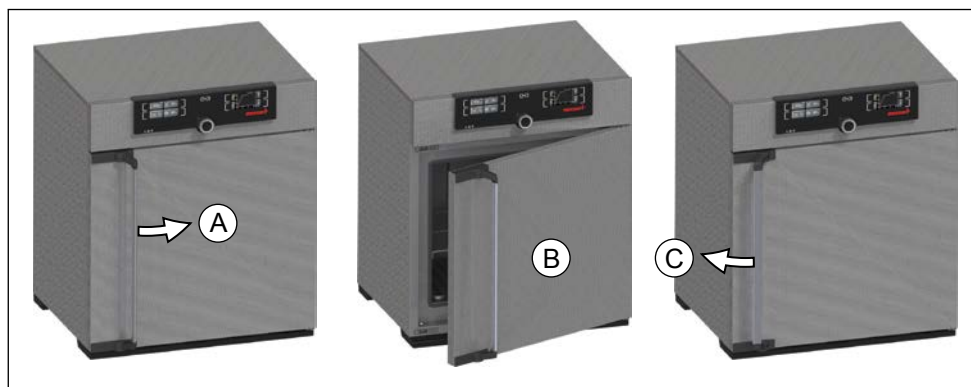

Fig. 13 Opening and closing the door
- ▶ To open the door, pull the handle bar to the side (to the left or to the right, depending on the door variation, see Fig. 13, A). The door opens slightly, so that the heat can be vented with the door ajar in case of high temperature inside the chamber. The door can then be opened completely (B).
- ▶ To close the door, push the handle bar back (C).